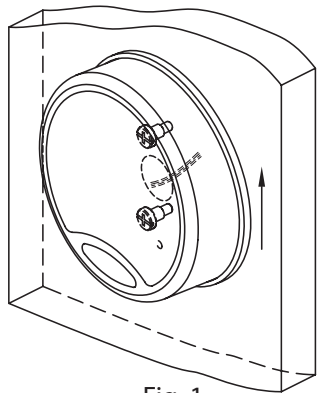

Fig. 1
1. Remove Entry Keypad. Slide it up and carefully pull it away from the safe's door. (Fig.1)